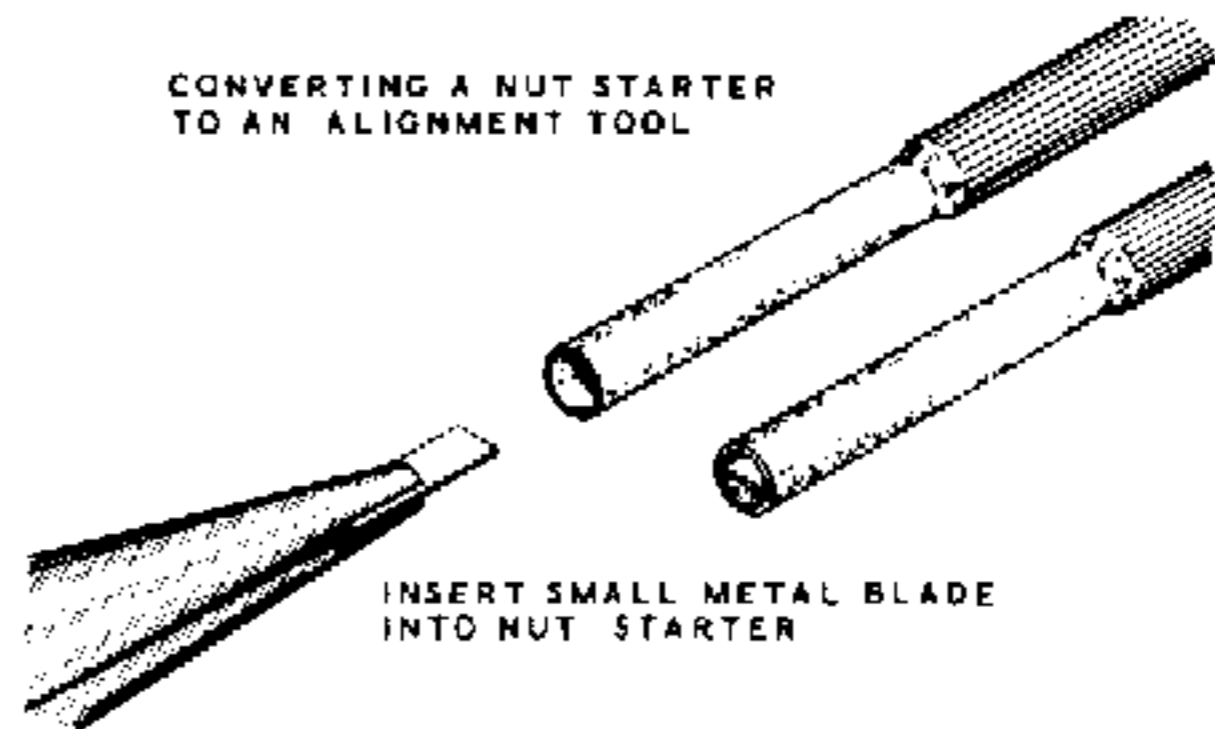

Figure 2
- () A small rectangular steel blade is supplied with this kit. Refer to Figure 2. Then use long-nose pliers to insert this blade into the smaller hole in the plastic nut starter. When installed, the blade end should be flush with the end of the nut starter. This can now be used as an alignment tool.